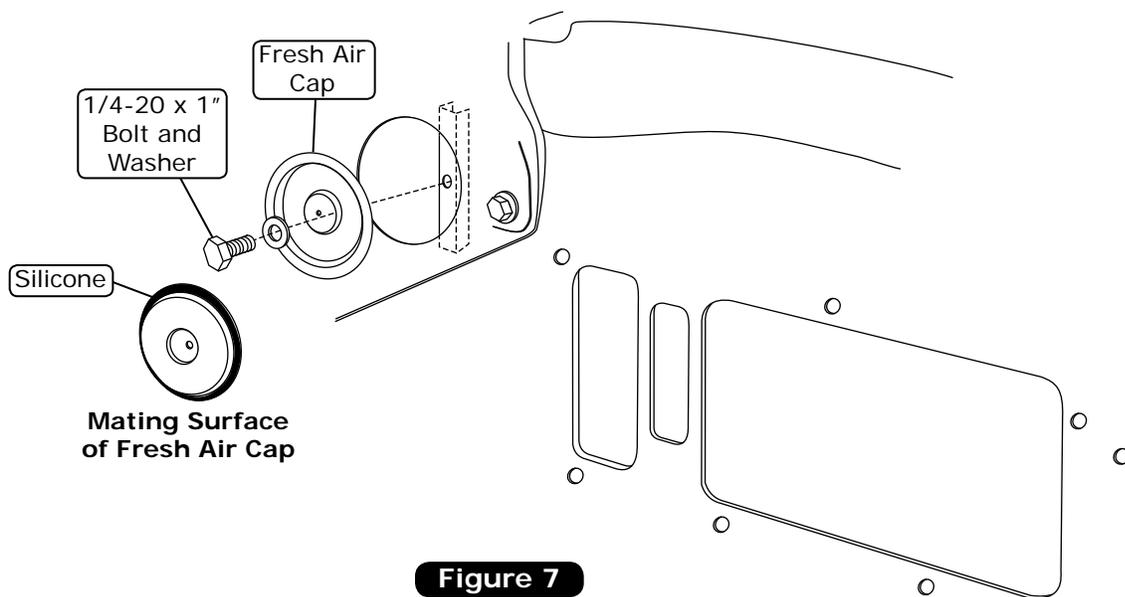

Figure 7
1. Apply a 1/4" bead of silicone around the mating surface of the fresh air cap as shown in Figure 7, below.
2. Attach the fresh air cap to the firewall using a 1/4-20 x 1" bolt and washer (See Figure 7, below).
NOTE: Before the installation of the evaporator unit, there may be firewall insulation retainers located on the firewall that will interfere with the installation of the evaporator brackets (See Figure 7, below).